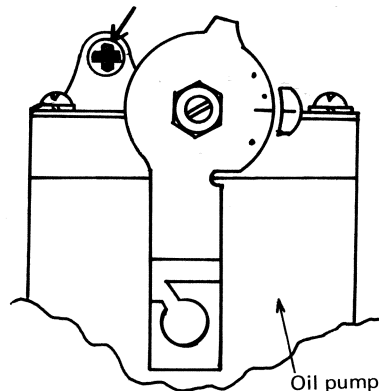

Fig. 6-7-5 Air bleeding screw
- a. If air is present in the oil line from the oil tank to the oil pump, loosen the oil pump bleeder screw as shown in Fig. 6-7-5, and bleed until all air has been expelled from the oil.